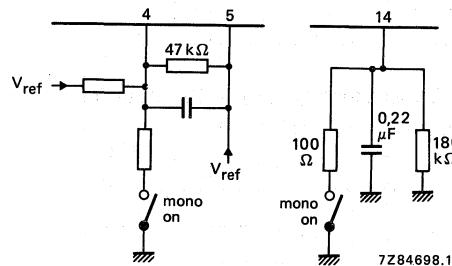

Fig. 3 (a) At pin 4; $-V_{4-5} > 300$ mV;
4. External mono 'ON' switch; see Fig. 3.